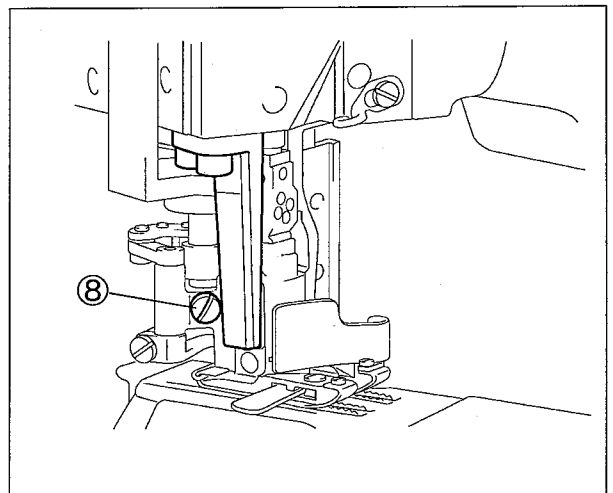

Fig. 78
- (1) Remove all needles and the seal plug ①.
- (2) Loosen the adjusting screw ② and then the screw ③ of the presser bar connecting bracket.
- (3) Loosen the screw ④ of the knife holder guide collar to be free the complete set including the upper knife, the knife holder, and the knife holder shank.
- (4) Loosen two screws ⑦ of the knife holder bracket ⑥ to remove the knife holder guide collar, c. set ⑤ and the upper knife.
- (5) Loosen the screw ⑧ on the back of the presser foot. (on the left side of model “-12”: Fig. 78)